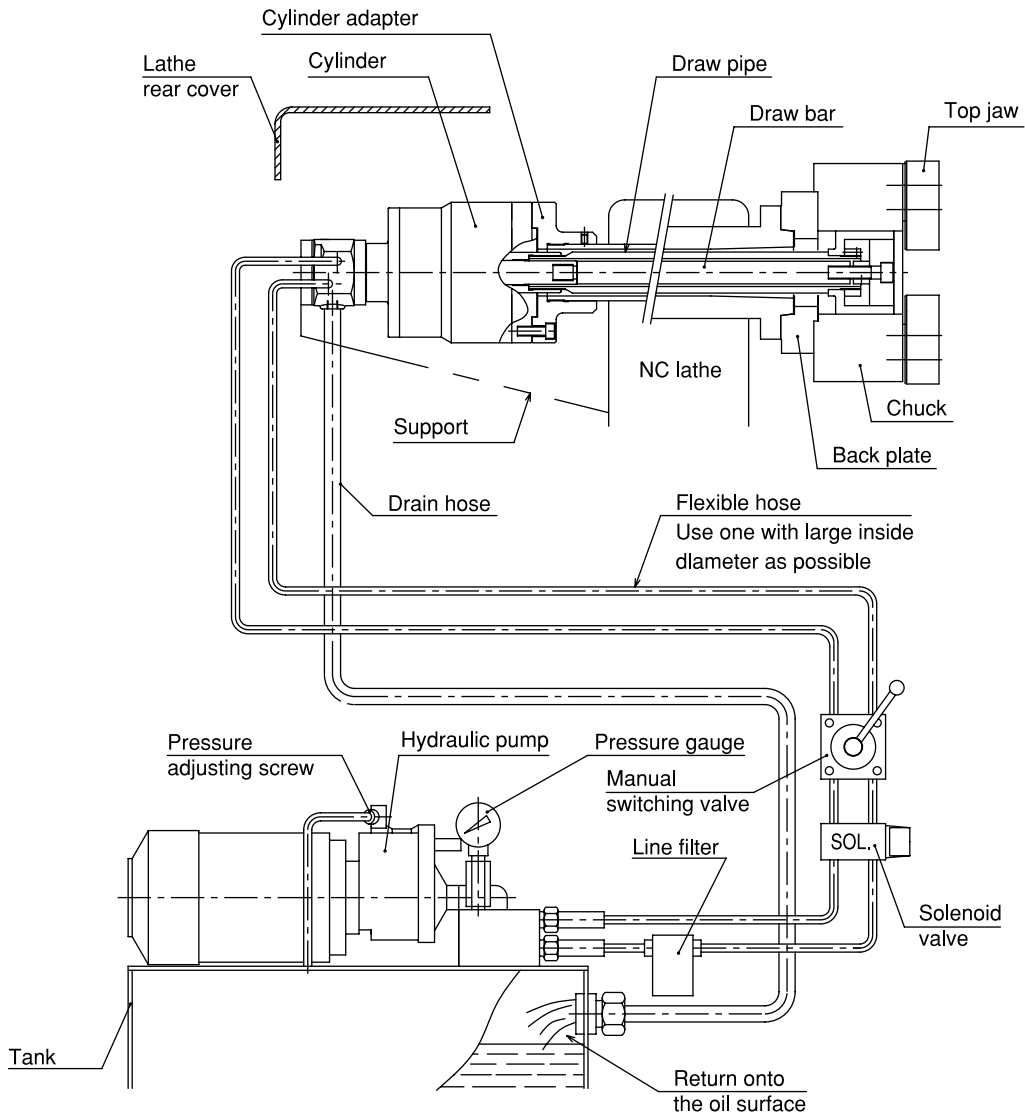

Fig.7
- The end of the hose is physically above the oil level. (Refer to Fig.7)
○Arrange the drain hose to come back to the above of oil tank surface of the hydraulic unit. (Fig.7) If the drain hose is connected to T-port such as valve block, etc., the oil seal of cylinder will damage because backpressure is applied to the hose.